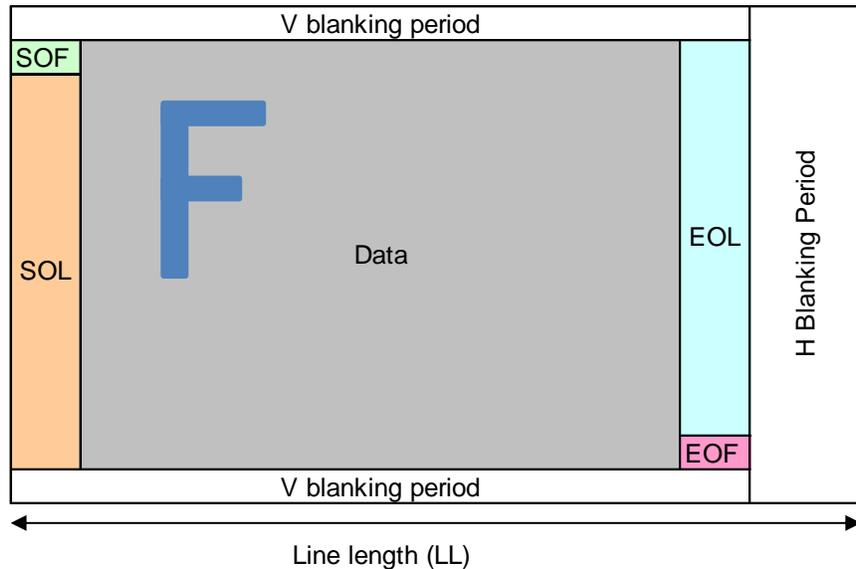

Figure 12: Encoded Frame Syncs
To facilitate system acquisition synchronization the KAC-12040 places synchronization words (SW) at the beginning and at the end of each output row as indicated in the following Figure 12. This is performed for each of the 8 LVDS output banks providing frame, line, and output synchronization. See the *KAC-12040 User Guide* for additional detail on LVDS and Encoded Sync output.